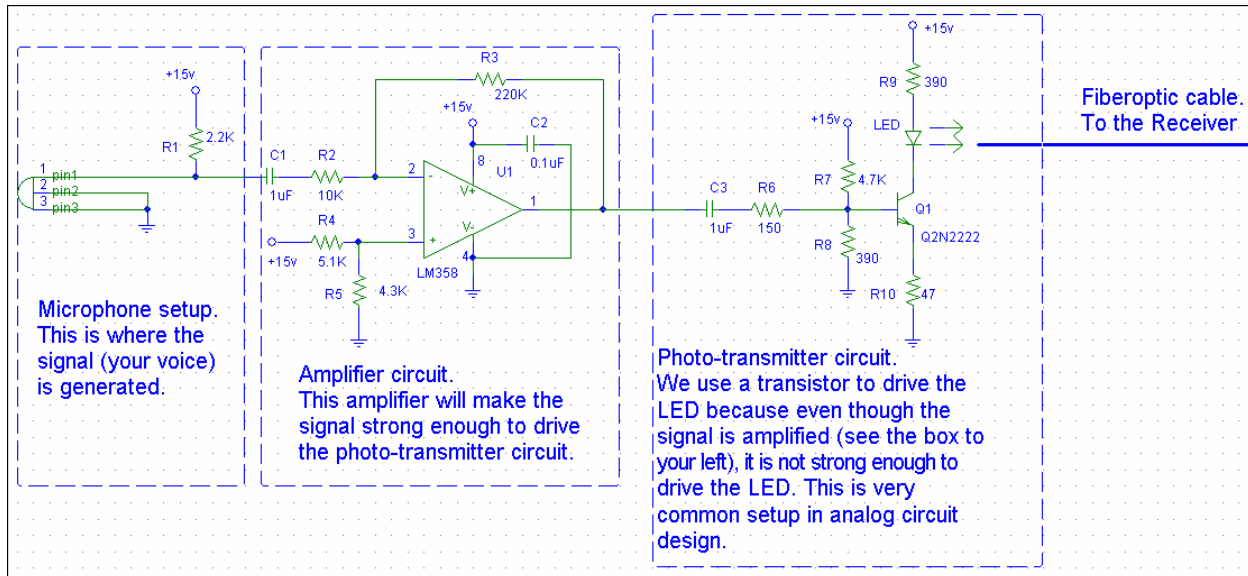
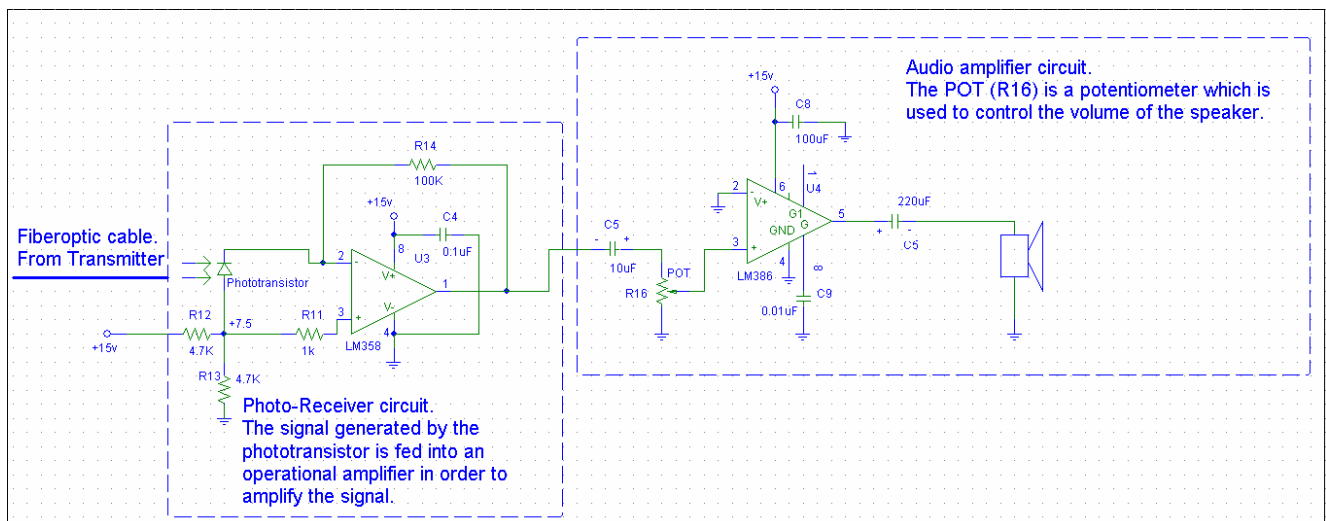

Figure 4.1: Schematic of the fiberoptic transmitter.
Figure 5.1: Schematic of the fiberoptic receiver circuit.
Figure 4.1 depicts the transmitter circuit together with the microphone and the amplifier. The figure has comments about each part of the circuit and what its purpose is. If you would like to find out more information about any part of the circuit use www.google.com to search the web. Use components names, i.e. LM358, or expressions like “single supply amplifier” etc.
Wire up the circuit shown in figure 4.1. If you want a better picture of the schematic, there is a pdf file called “fiberoptic_transciever_schematic.pdf”. Here are the guidelines that you **must follow** when wiring up the circuit. **These guidelines are set in place so you will learn how to wire up neat and organized circuits on a breadboard!** We recommend that you follow these guidelines in all successive lab courses you take at MTU. **If you choose not to follow these guidelines, your T.A. will not help you with debugging your circuit.**
- **Note on the use of decoupling capacitors in electrical circuit designs:** A common problem in all electronic systems is the inductance associated with power supply lines. When transistors in integrated circuits switch, the change in current can result in a significant voltage drop across power lines of a chip (dI/dt noise). DC supply voltage must be filtered from fluctuations and this is done by adding decoupling capacitors. The rule of thumb is to place a decoupling capacitor as close as possible to the pin on the chip that is connected to a power rail. In figure 4.1 in the “Amplifier Circuit” you can see that there is a capacitor wired between pin 6 (power) and ground. Note that pin 4 (ground) is also wired to ground. We recommend that you take a look at the data sheet for the LM358 to clear up any confusion that you (might) have. **From now on we will not show the decoupling capacitors in circuit diagrams. This does NOT mean that you can ignore them. You MUST put at least one decoupling capacitor per integrated chip, just like we have**
shown you in figure 4.1. Failure to do so will result in your circuit not working properly or even worse, working occasionally.
Following the guidelines outlined in section 4 wire up the circuit shown in figure 5.1. If you want a better picture of the schematic you can download the file “fiberoptic_transciever_schematic.pdf”.
- Using a voltmeter confirm that all chips on the breadboard are getting +15V on the proper pins. Refer to figure 4.1 & 5.1 to see which pins, on each chip, should be wired to +15V;
- Unplug the fiberoptic cable from the receiver end and see if there is red light emitting from the cable. If there is no light then there is a problem in your transmitter circuit; make sure your LED is connected correctly, in other words, the anode and cathode are connected as shown on the diagram in figure 4.1.
- Check the POT (R16 in figure 5.1) to make sure the volume is not turned down all the way.
1. The circuits shown in Figure 4.1 and Figure 5.1 are wired properly (or at least they will not blow up when powered up);